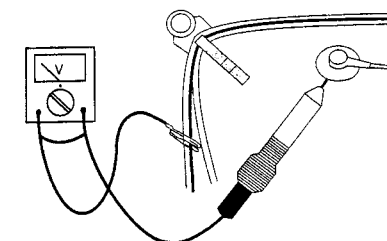

Fig.1
2. In order to prevent damage to ICs and transistors, all high-voltage flash-overs must be avoided. In order to prevent damage to the picture tube, the method shown in Fig. 1 should be used to discharge the picture tube. Use a high-voltage probe and a multimeter (position DC-V). Discharge until the meter reading is 0 V (after approximately 30 seconds).